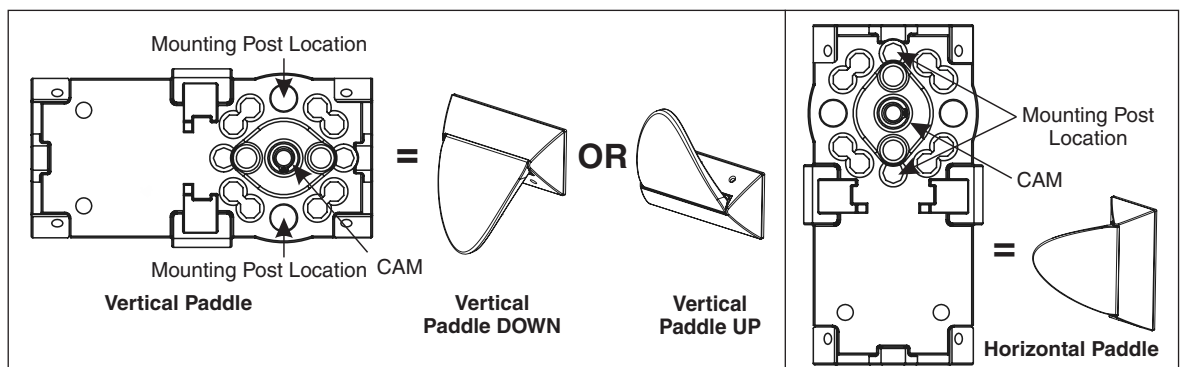

Figure 18
5. Align cam and chassis as shown based on desired paddle orientation. (Figure 18)